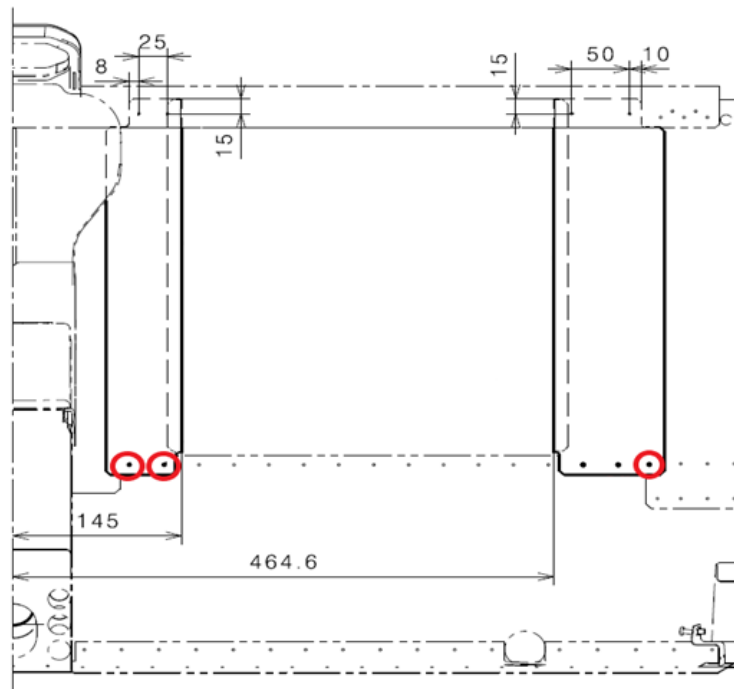

Fig. 3: Position of cover plates and rivets
- 7) Drill the highlighted rivets according to (see Fig. 3).